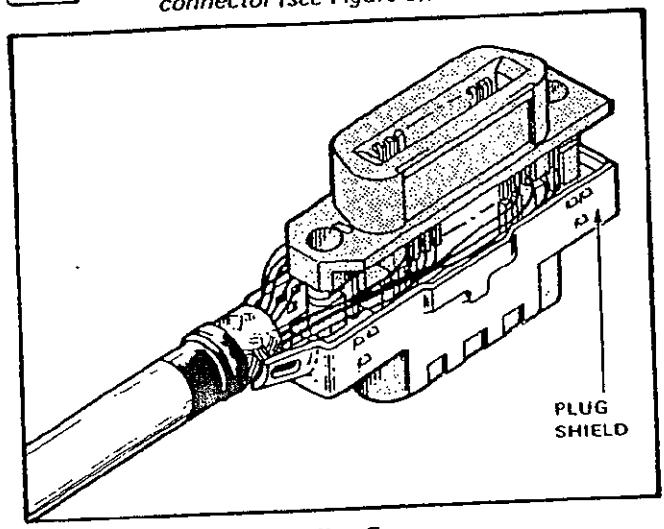

Fig. 5
NOTE Be sure cable exists from chamfered side of connector (see Figure 5).
1. Position plug shield over terminated assembly. Dress cable as required to ensure all wires are in shield and will not be pinched by receptacle shield. (See Figure 5)